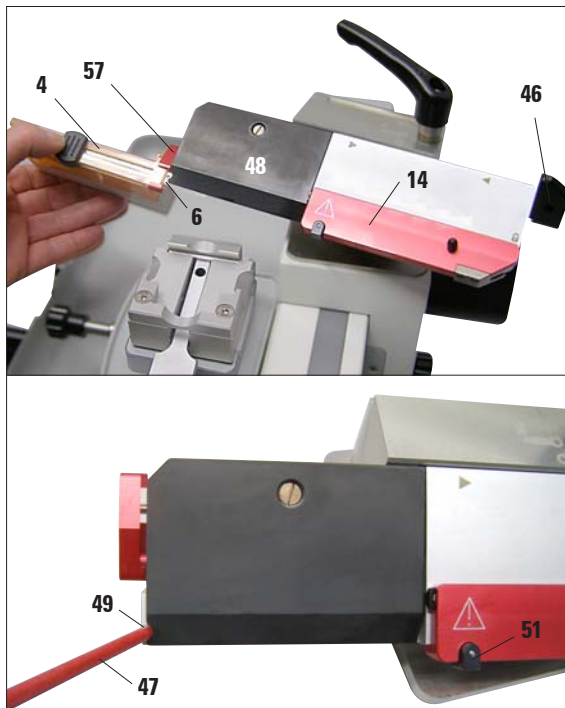

Fig. 28
Insert the blade (Fig. 28)
- Push the knife guard (14) towards the right and push the lever (46) upwards to release the clamp of the pressure plate (48).
- Carefully insert the blade (6) into the blade holder (Fig. 28).
- Using a brush stick (47), carefully push the blade into its final position. The notch (49) makes it easier to push the blade all the way underneath the pressure plate.
- Push the clamping lever (46) downwards to clamp the blade.